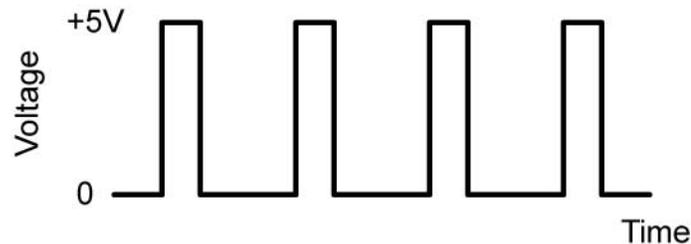

Figure 1: Sample Pulse-Width-Modulation (PWM) Signal Waveform
- **Introduction:** Electric motor speed is controlled by increasing and decreasing the effective voltage to the motor. More voltage and the motor rotates faster, less voltage and the motor slows down. The instinctive way to control motor speed is to connect a rheostat between the motor and the power supply to adjust the voltage, but this method has several shortcomings which will be discussed in this lesson. A better method of managing motor speed is to switch the power to the motor on and off very quickly. Rather than slowing a motor down by reducing the motor supply voltage from the full voltage, PWM produces digital pulses at the full supply voltage. Pulse Width Modulation, or PWM, is a technique for creating the series of on-off pulses. This on-off square wave pattern changes the portion of the time the signal is on versus the time that the signal is off (Figure 1).